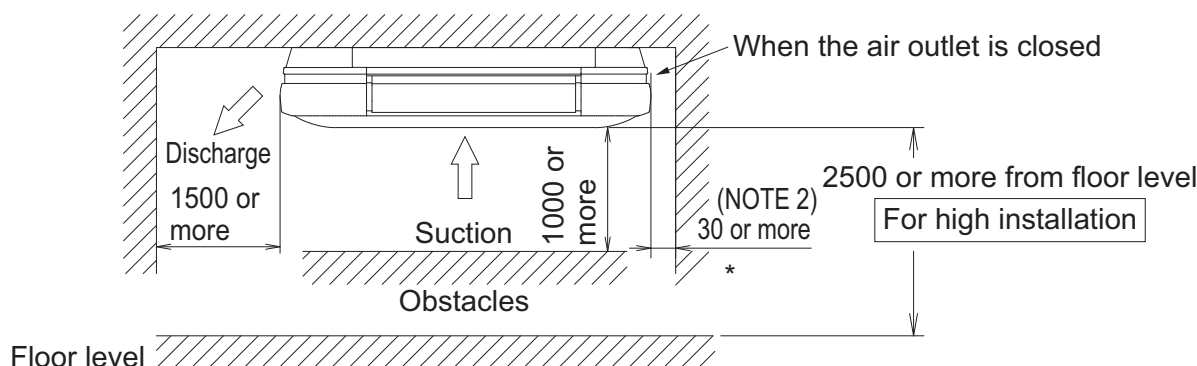
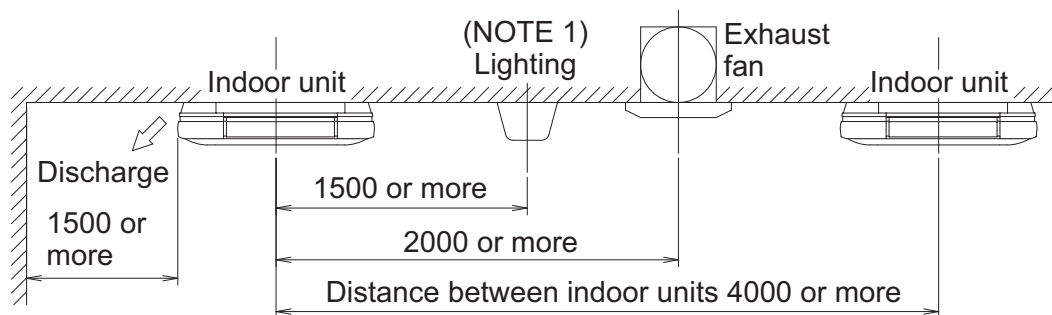

Fig. 1
Fig. 2
(1) Select the installation location that meets the following conditions and get approval of the customer.
- Where a space sufficient for installation and service can be ensured. **(Refer to Fig. 1 and Fig. 2)**
To determine the minimum floor area (only for R32 refrigerant). Use the graph or table to determine the minimum floor area. See figure 1 on the inside of the front cover.